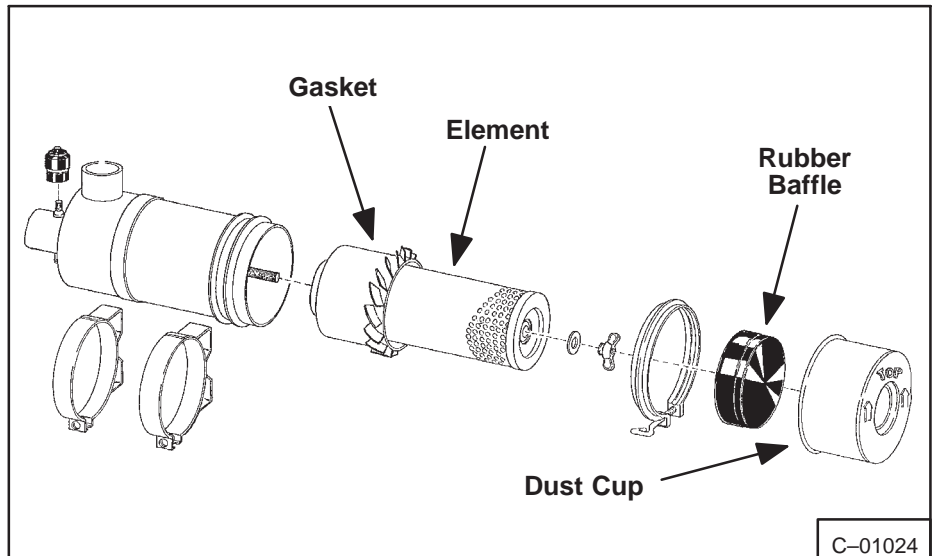

Fig. 1-16 Air Cleaner Assembly
1. Remove and clean dust cup every day (Fig. 1-16).
**NOTE: Be sure (1) gasket surfaces are clean before installing new element and (2) be sure gasket is in correct place.**